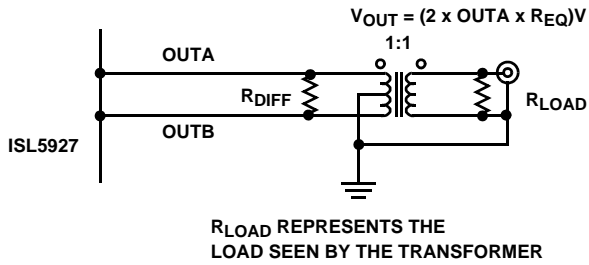
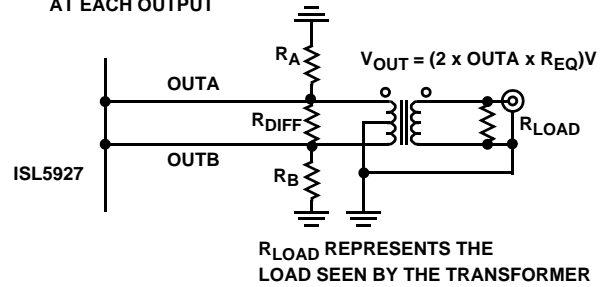

FIGURE 13. OUTPUT LOADING FOR DATASHEET MEASUREMENTS
FIGURE 14. ALTERNATIVE OUTPUT LOADING
# Typical Performance (+3.3V Supply, Using Figure 13 with $R_{DIFF} = 100\Omega$ and $R_{LOAD} = 50\Omega$ )
**Typical Performance** (+3.3V Supply, Using Figure 13 with  $R_{DIFF} = 100\Omega$  and  $R_{LOAD} = 50\Omega$ ) (Continued)
IOUTA and IOUTB can be used in a differential-to-single-ended arrangement to achieve better harmonic rejection. With RDIFF = 50Ω and RLOAD = 50Ω, the circuit in Figure 13 will provide a 500mV (-2.5dBm) signal at the output of the transformer if the full scale output current of the DAC is set to 20mA (used for the electrical specifications table). Values of RDIFF = 100Ω and RLOAD = 50Ω were used for the typical performance curves to increase the output power and the dynamic range. The center tap in Figure 13 must be grounded.
In the circuit in Figure 14, the user is left with the option to ground or float the center tap. The DC voltage that will exist at either IOUTA or IOUTB if the center tap is floating is IOUTDC × (RA/RB) V because RDIFF is DC shorted by the transformer. If the center tap is grounded, the DC voltage is 0V. Recommended values for the circuit in Figure 14 are RA = RB = 50Ω, RDIFF = 100Ω, assuming RLOAD = 50Ω. The performance of Figure 13 and Figure 14 is basically the same, however leaving the center tap of Figure 14 floating allows the circuit to find a more balanced virtual ground,